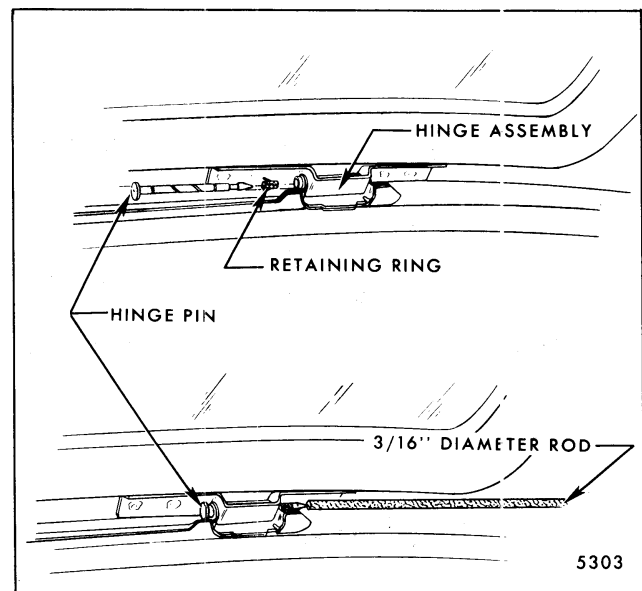

Fig. 7-20-Rear Compartment Lid Hinge - "X-17" Style
5. Use a length of 3/16" diameter rod to remove hinge pins from hinge halves. As shown in Figure 7-20, place end of rod against pointed end of hinge pin; then strike rod firmly to shear retaining clip tabs and drive pin through hinge. Repeat operation on opposite hinge and remove lid from body.
1. Install new retaining rings onto notches provided in hinge pins. Position rings so that tabs point toward head of pin as shown in Figure 7-20.